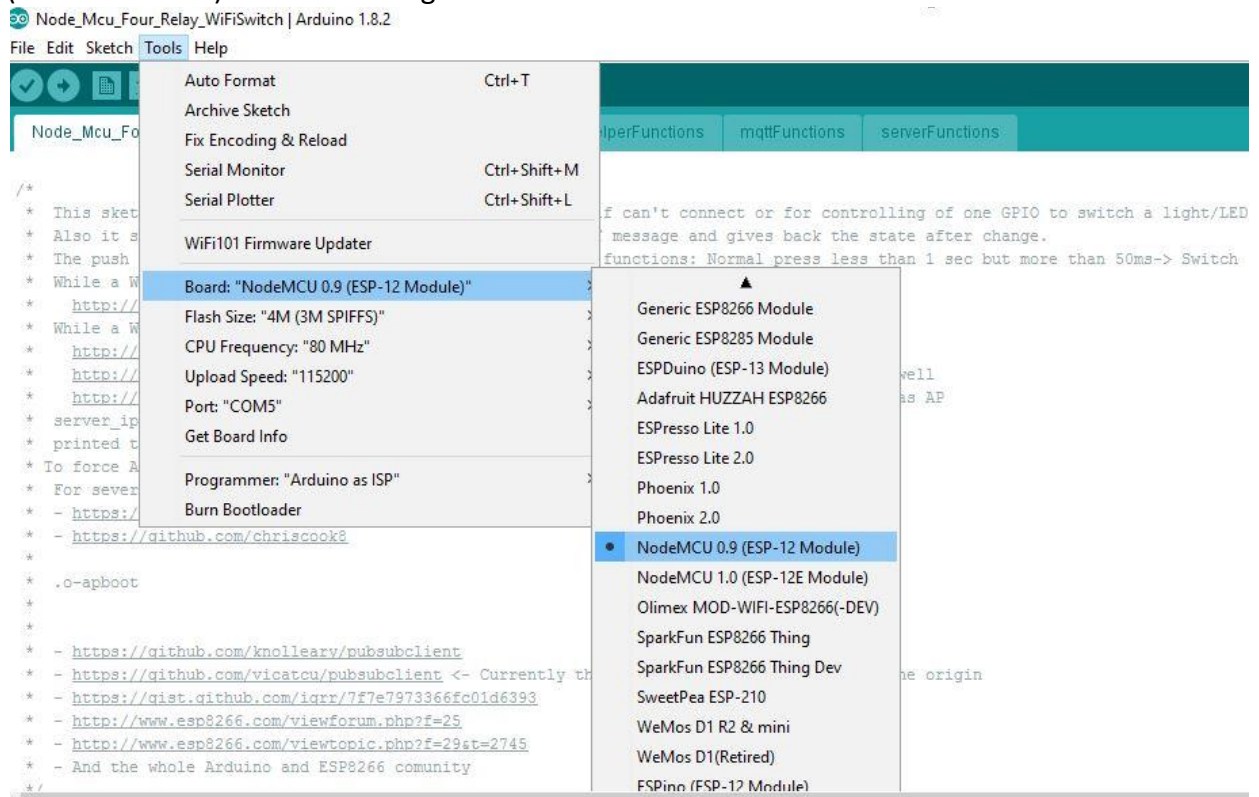

Figure 13: Board Selection
10. Click on tools tab, move mouse pointer to “Programmer: “Arduino as ISP””, under this click on “Arduino as ISP” to select. Refer to figure 13.